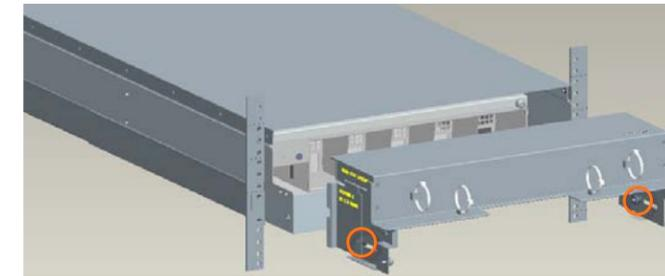

Figure 6: Attaching the Rear Stop Assembly
1. Loosen the nuts on the fastening brackets indicated in Figure 6 so that the sliding brackets can be moved.
4. Tighten the fastener nuts on each side (see Figure 6).